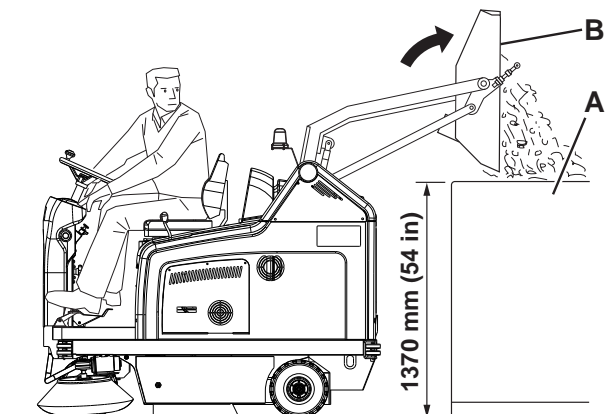

Figure 2
1. The hopper maximum dumping height is 1,370 mm (see Fig. 2).
- Turn off the vacuum system with the switch (56).
- Turn on the filter shaker by pressing the upper part of the switch (56).
5. Press the enabling switch (51) and the dumping switch (58) of the hopper (B, Fig. 2) at the same time, and discharge all the debris in the dustbin (A).